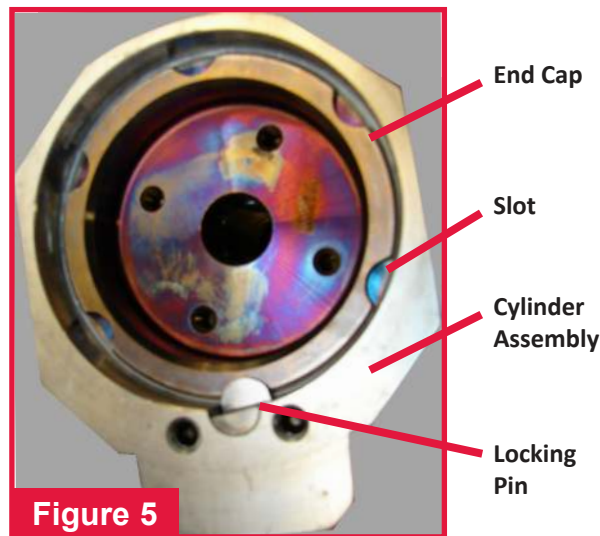

Figure 5
- Install O-ring and back-up ring on end cap, and insert end cap into back of piston. Using 1/2 inch hex wrench, thread end cap fully into cylinder assembly, then back off until slot in rear of end cap is aligned with slot in rear of cylinder (Figure 5).
- Slide locking pin into place where slots align (Figure 5).